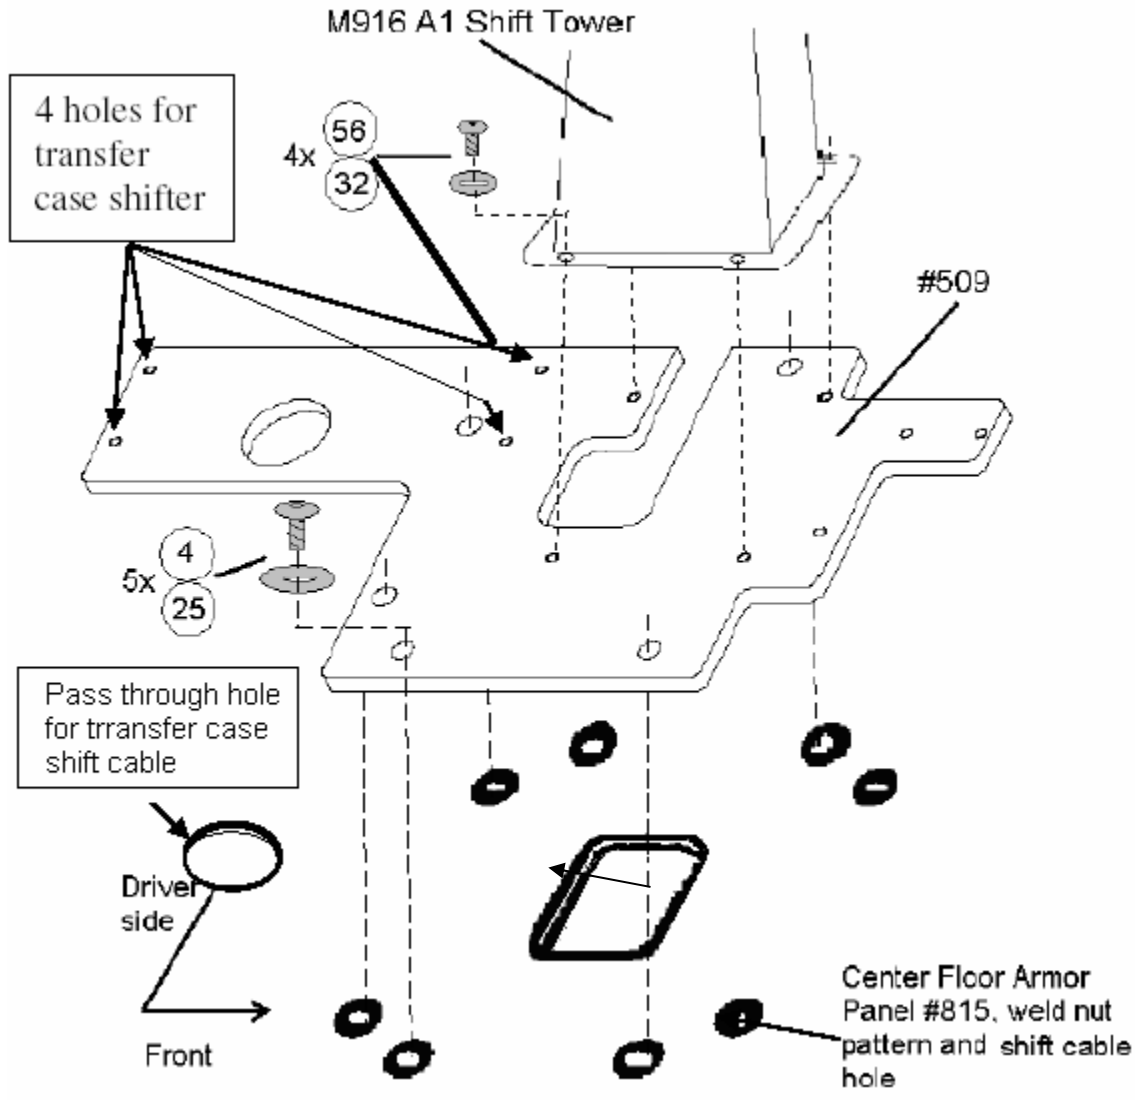

Figure 7-11. Shift Tower Installation (M916-A1).
Parts (see Figure 7-11):
Fasteners: (see Figure 7-11)
2. Feed the shifter cable up through the modified square hole in the center floor panel and the adapter plate. Re-attach the shift cable to the shift tower and bolt the shift tower to the shift tower adapter part #509 (see Figure 7-11). Apply thread-locking compound to the screws.
3. Feed the transfer case cable up through the hole cut in the center floor panel #815 and adapter plate #509. Re-attach the transfer case cable to the transfer case shifter and fasten the shifter (not shown) to the adapter plate part #509 using the four holes indicated in Figure 7-11 and four more Screws 56 and Flat washers 32. Apply thread-locking compound to the screws.